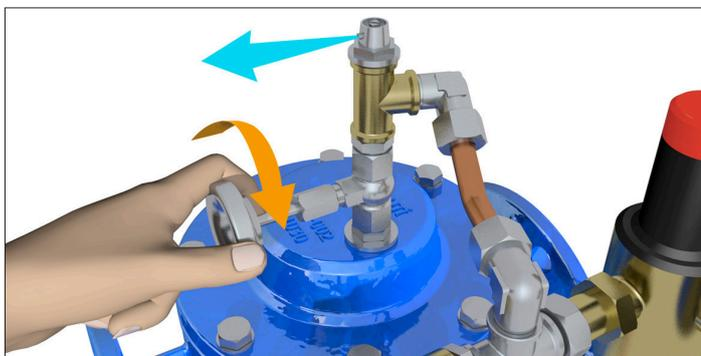

Figure 8: The filter integrated in the control circuit must be purged
4. The speed is adjusted via throttle valve in the control circuit (see Figure 8). The speed is adjusted using a handwheel. Before the response speed can be adjusted, the throttle valve first have to be completely closed (by turning adjusting handwheel clockwise) to set the initial position to zero turns. Afterwards the speed can be adjusted. VAG recommends the following standard adjustments: